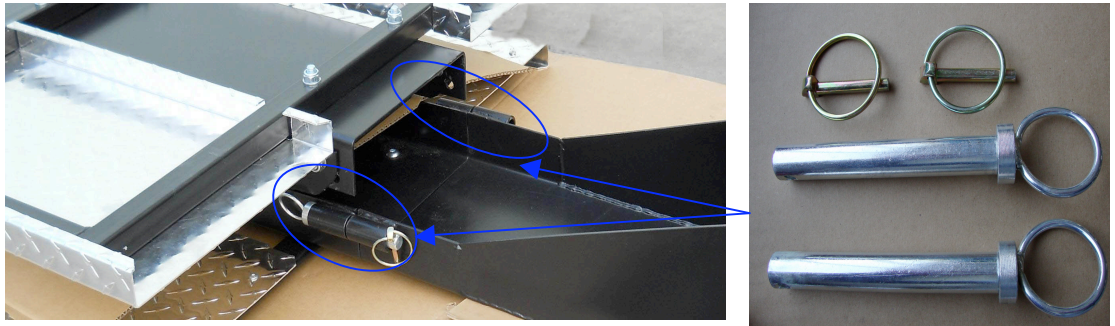

Figure 8-1
1. Use 16 Safety Pin (Part# A11) and Spring Pin (Part# A16) to connect the Front Channel (Part# A2) and Tow Bar (Part# A1). See Figure 8-1.